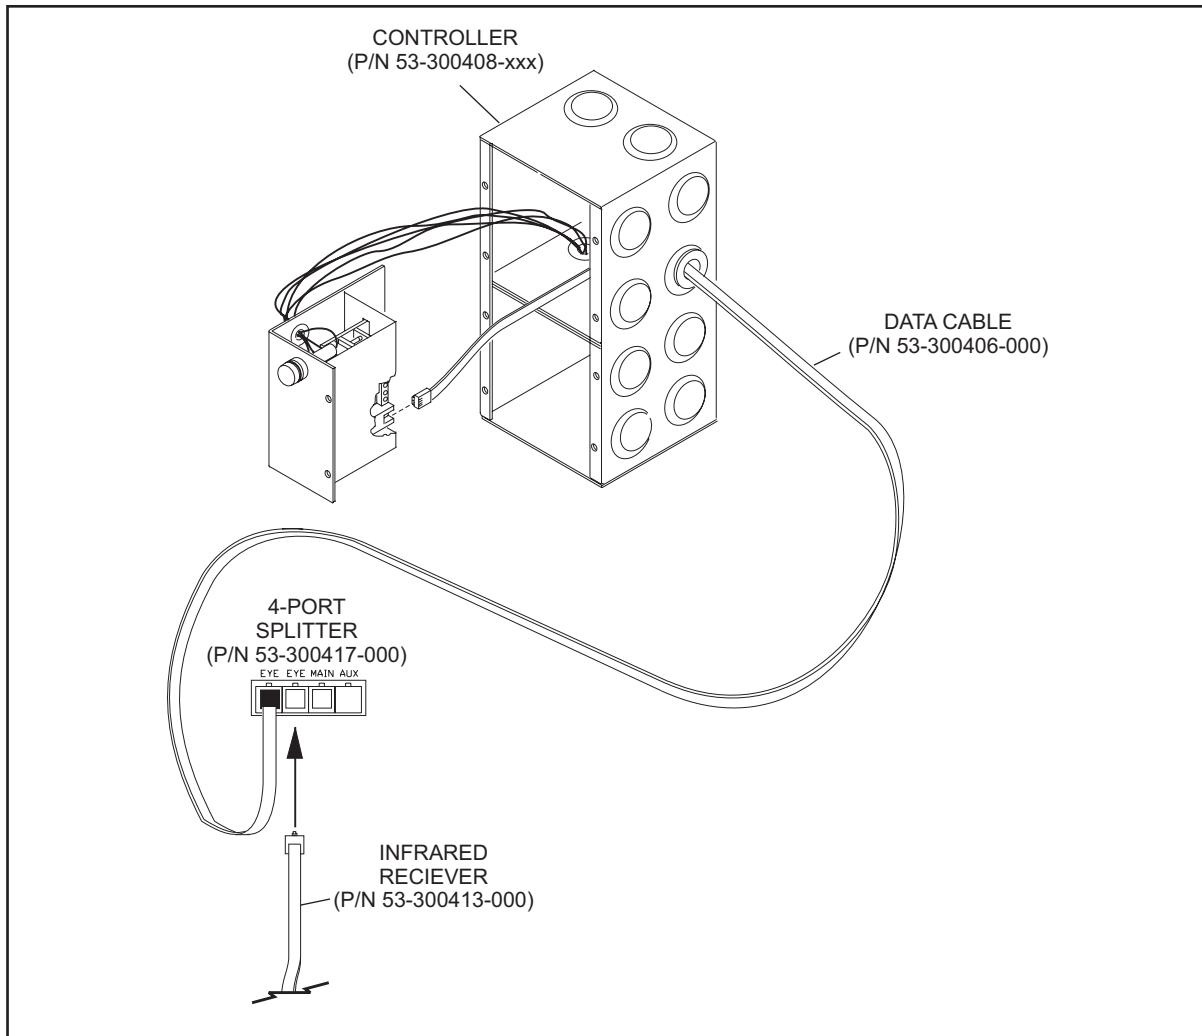

Figure 82
2. Then plug the infrared receiver into the “EYE” port on the splitter. Refer to **Figure 82**.